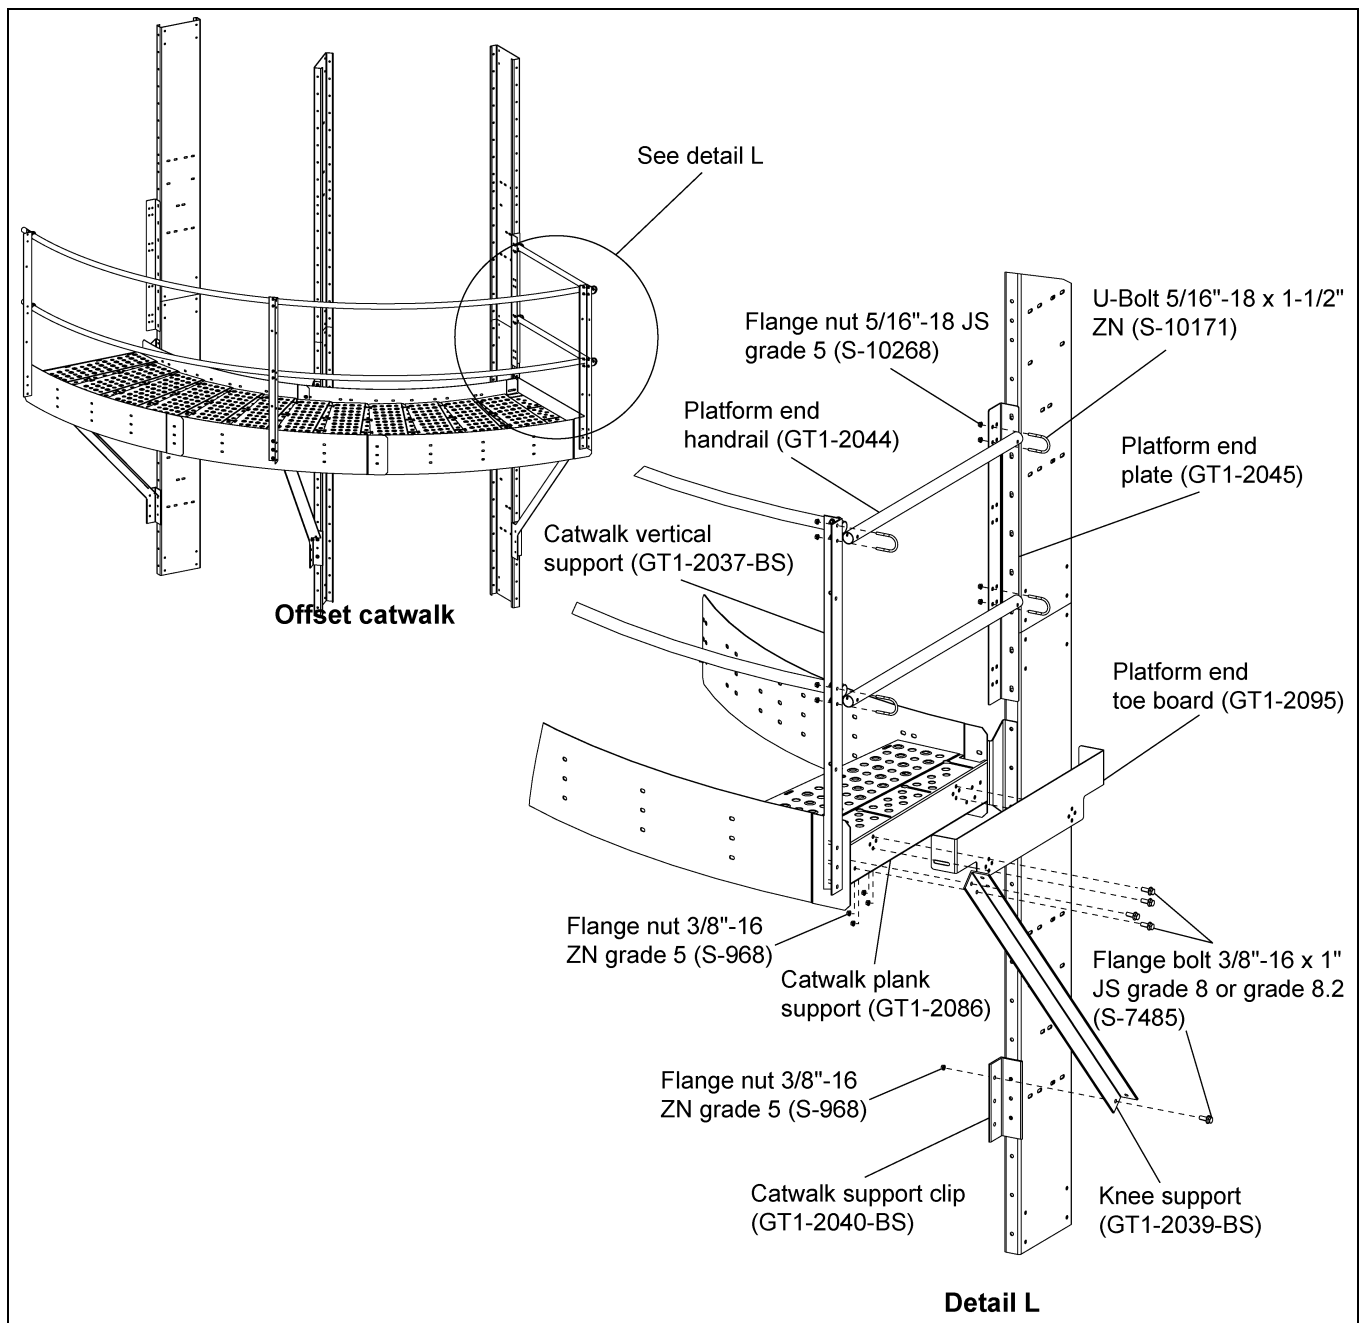

Figure 6V Offset Platform End Handrail (GT1-2044) Installation
1. Install the platform end handrail (GT1-2044) to the catwalk vertical support (GT1-2037-BS) and the platform end plate (GT1-2045) using 5/16"-18 ZN U-bolts (S-10171) and 5/16"-18 JS grade 5 nuts (S-10268). *(See Figure 6V.)*
2. Install the platform end toe board (GT1-2095) and knee support (GT1-2039-BS) to the catwalk plank support (GT1-2086) using 3/8"-16 x 1" JS grade 8 or grade 8.2 bolts (S-7485) and 3/8"-16 ZN grade 5 nuts (S-968). *(See Figure 6V.)*